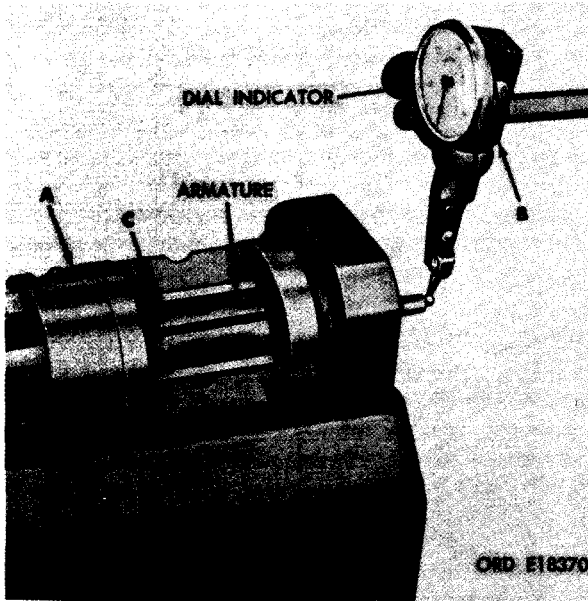

FIGURE 443. CHECKING ARMATURE END PLAY USING DIAL INDICATOR.
and thickness of shim pack cannot be determined at this stage of assembly. Refer to figure 443.
**b. Check Armature End Play.** Figure 443. (A) Mount armature and associated parts in a soft-jawed vise. (B) Set up a suitable dial indicator so arm rests on armature shaft. (C)